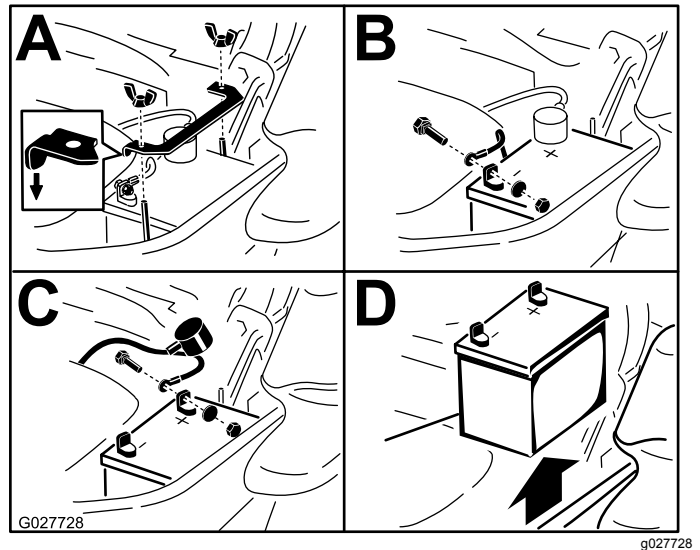

Figure 57
3. Remove the battery as shown in Figure 57.
Note: Position the battery in the tray with the terminal posts opposite from the hydraulic tank (Figure 57).